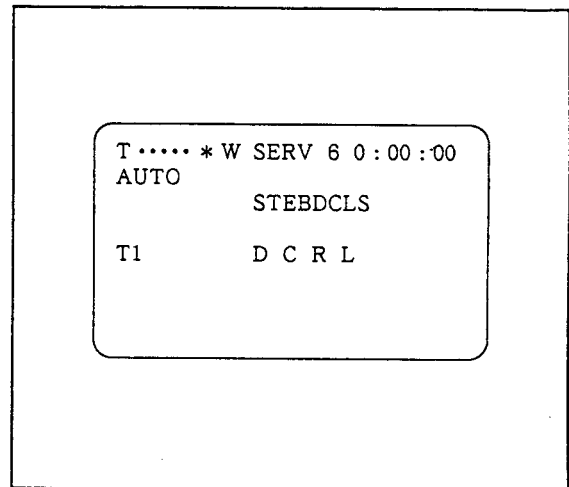

Fig. II-38
- (1) Shortcircuit the points A and C and open the points B and D of the character generator respectively.
- (2) Connect lines to the character generator as shown in Figure II-38. Note: Do not turn the VRs ( $\times 2$ ) in the AF PCB.
- (3) Mix the CG OUT of the character generator with a video signal for connection with the monitoring TV set (by such means as BNC forked connector).
- (4) Connect \*1 Pin to RED Pin and \*2 Pin to BLACK Pin.
- (5) Place the Siemens Chart at a distance of  $2.40\text{m} \pm 3\text{cm}$  from the front of the lens unit.